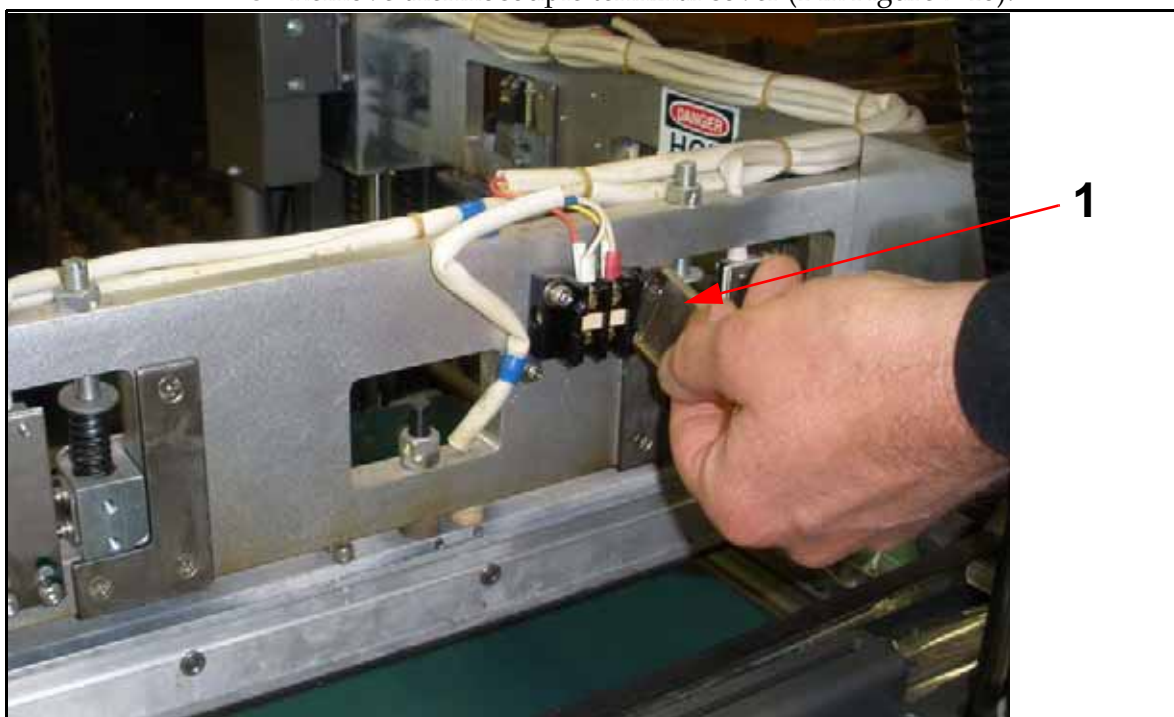

Figure 7-18. Thermocouple Terminal Cover
- 5 Remove thermocouple terminal cover (1 in Figure 7-18).